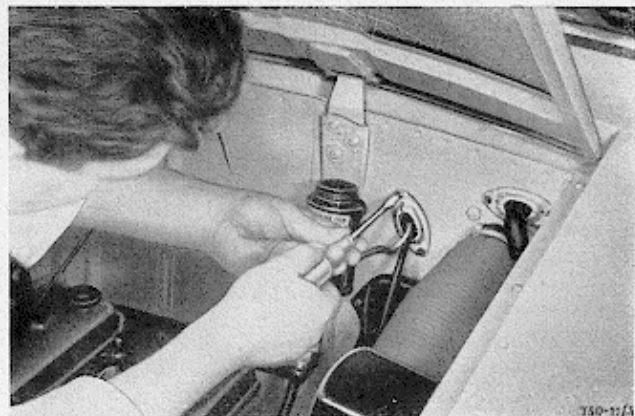

Fig. 4 - Removing the conduit for the oil-gauge tube and the flexible speedometer cable
- slacken the screws securing the oil gauge tube and speedometer cable duct (Fig. 4) and then loosen the strap fixing the speedometer cable to the heater air pipe;